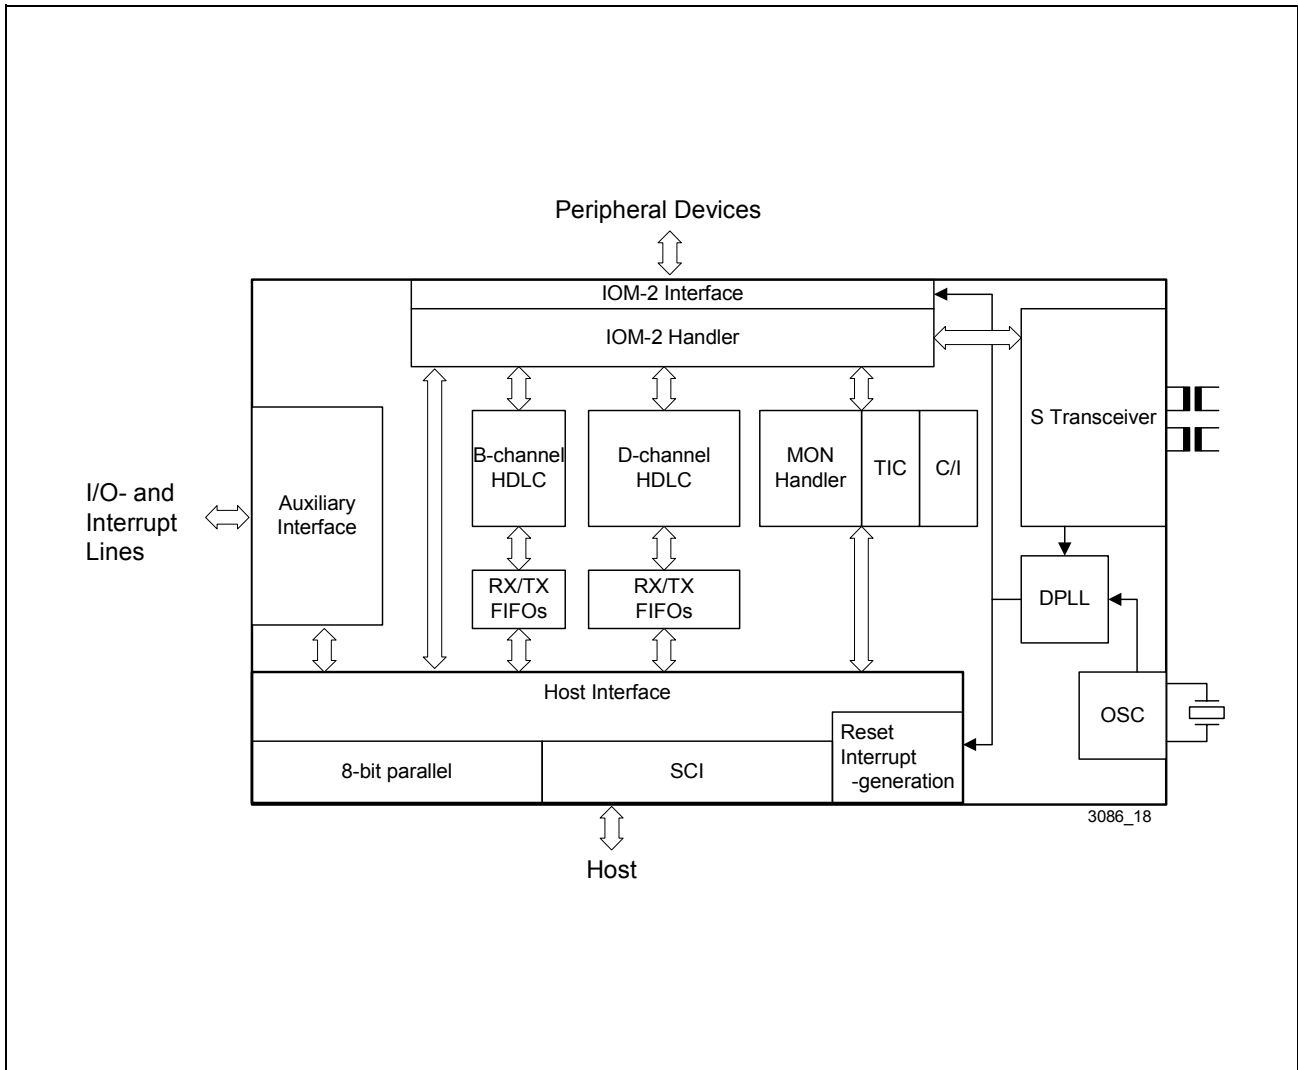

**Figure 4 Functional Block Diagram of the ISAC-SX**
**Figure 4** shows the architecture of the ISAC-SX containing the following functions: